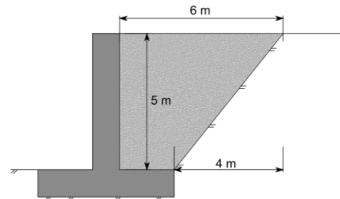

Figure 1: Sketch of retaining wall geometry for problem 4.
4. [O1] (15 points) A laboratory test determined that the minimum and maximum void ratios of some gravel are  $e_{min} = 0.2$  and  $e_{max} = 0.95$  respectively. In a construction site, the gravel was used as fill for a 20m long retaining wall shown in figure 1. It was determined that the in-situ moist unit weight was  $\gamma_t = 20 \text{ kN/m}^3$  with a moisture content of  $w = 8\%$ . a) Determine the in-situ void ratio of the gravel, b) its relative density, c) minimum and maximum dry densities. d) If the gravel is transported from its source with a relative density of  $D_r = 23\%$  and moisture content of  $w = 1\%$ , what is the volume of gravel transported from its source to the site?. Use  $G_s = 2.67$ .